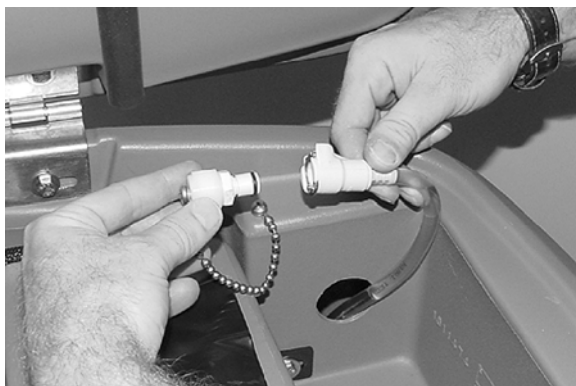

FIG. 52
11. FaST Model: Connect the FaST-PAK supply hose to the storage plug when not in use (Figure 52). Remove any dried concentrate from the hose connector by soaking it in warm water.